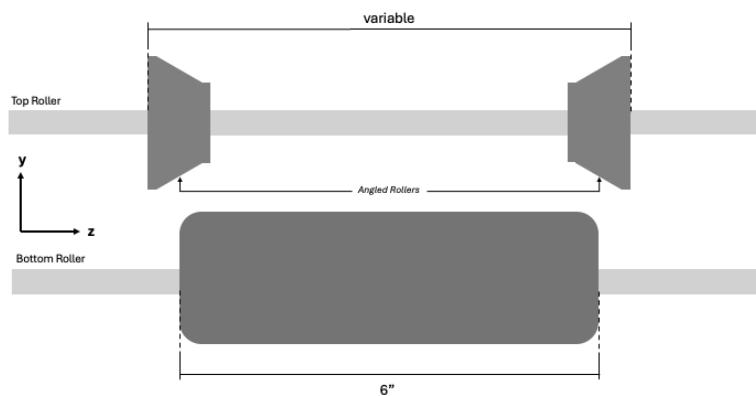

Figure 4 – Edge shear roller configuration
- 6.1. Ensure the top roller is configured with the adjustable angled edge roller, and the bottom roller is configured with a straight 6" roller, as seen in Figure 4.